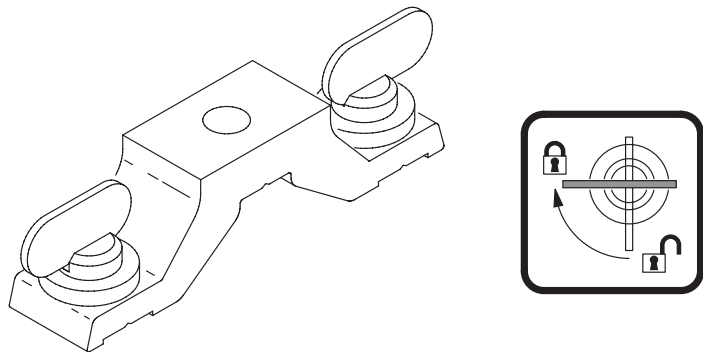

Figure 8: Clamp bracket and quarter-turn fasteners
3. See Figure 8. Align each of the two clamp brackets with two mounting points in the base. Insert the quarter-turn fasteners into the base and turn all levers a full 90° clockwise to lock.